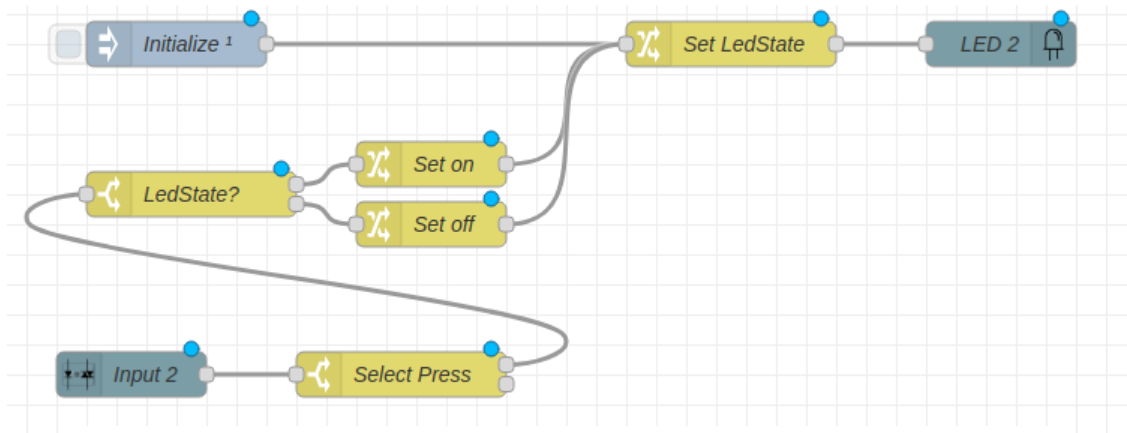
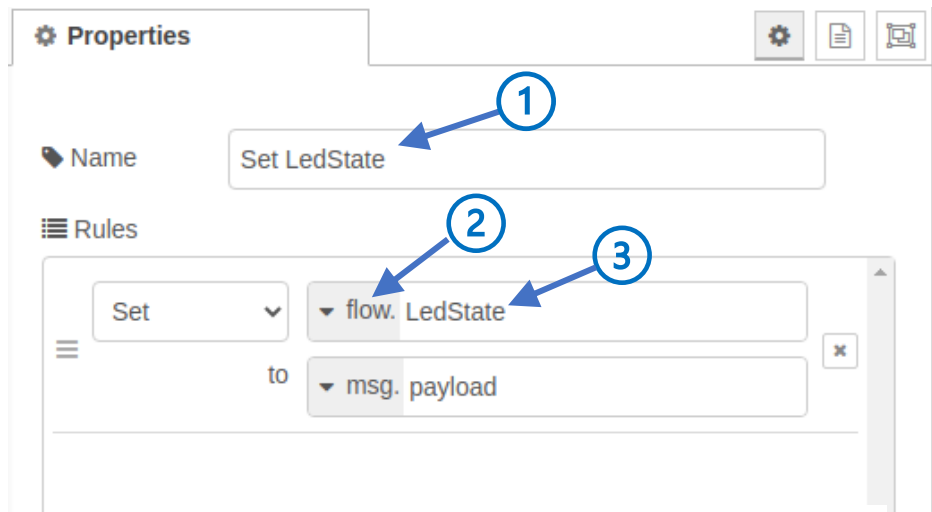

Figure 5-27: Toggle LED Flow
Figure 5-29: Set LedState Node Configuration
In the node configuration for the “Set LedState” shown above in Figure 5-29 the context variable “LedState” is given the scope “flow” this means that every node in the flow shown in Figure 5-27 can look at and a possibly change its value. In particular, the node “Set LedState” sets the value of the variable and the Switch node “LedState?” can look at the value to make a decision about where to send the message it receives.
Take a look dropdown menu (② in Figure 5-29). If you open the dropdown menu you will see this:
Return your attention to the “Set LedState” Change node for a moment. The Change node configuration (Figure 5-29 above) sets the context data for LedState to the value of *msg.payload*, but it does not change the value of the *msg.payload*. The message came into the node with *msg.payload* set to “off” and left the same way. That is what turns off LED 2 when you deploy your flow. If you are not sure about this then pull up a Debug node and look at the message going to the LED node.
Now turn your attention to the middle three nodes in the flow of Figure 5-27 reproduced below for your edification and convenience.
When you look at the Switch node ("LedState?") in Figure 5-27 it can be a bit difficult to determine what rule is associated with each port, without opening up the node. Here's a Node-RED trick: simply hover the cursor over the output port and Node-RED will show you the rule, like this:
Set up the flow as shown in Figure 5-27 above, DEPLOY IT and see if it behaves according to the specification. When you press the button connected to IN2 the state of LED 2 should alternate between off and on.